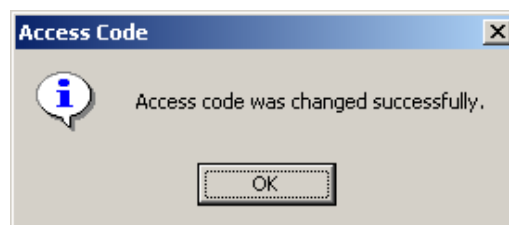

Figure 2-20 Access Code Changed Confirmation Screen
4. Select **Yes**, IPScom will display an Access Code Was Changed Successfully Confirmation Screen (Figure 2-20).